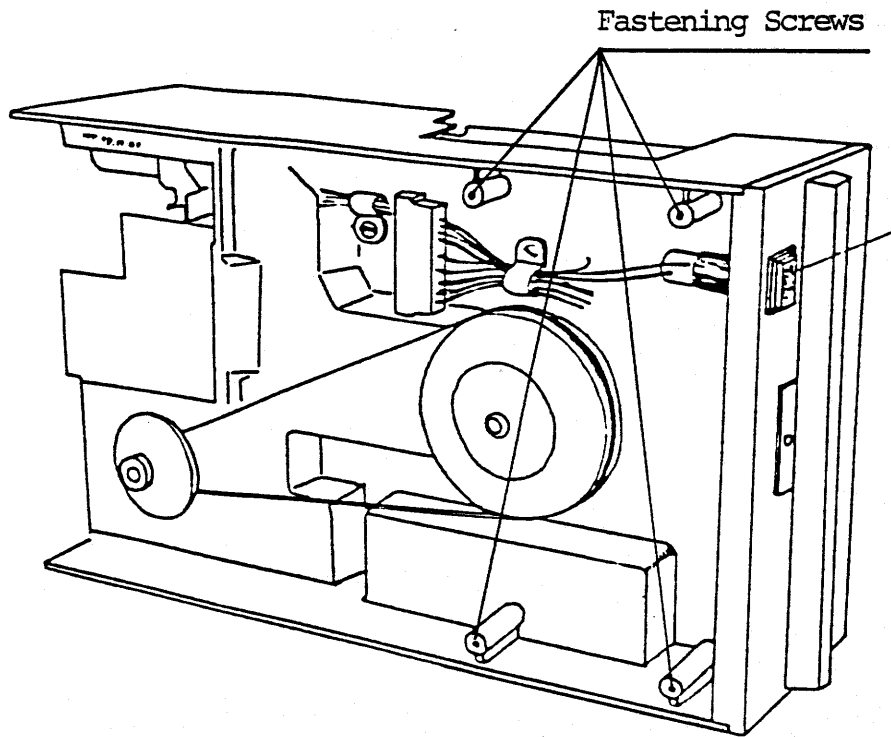

Fig. 4.4 FDD705 bottom view
- a. Remove the four fastening screws from the Drive (fig. 4.4)